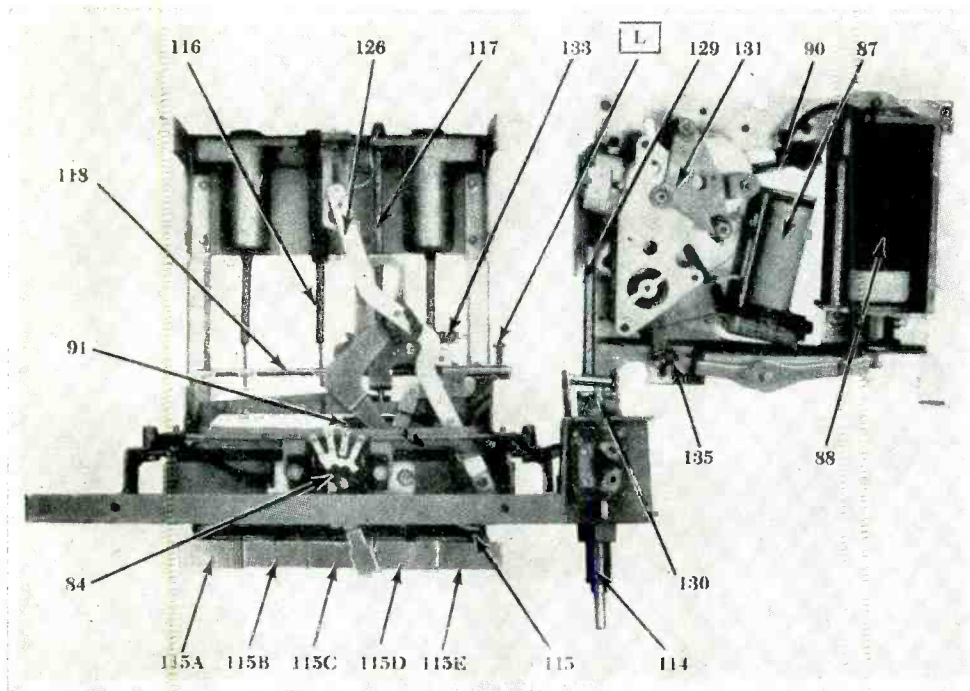

Fig. 3—Tuner open.
First and always, check the setting of the sensitivity switch lever, Fig. 3, item 84. Many owners do not understand the use of this switch and may need education as to its use. When left in the minimum sensitivity position the tuner will almost always roll without stopping. For checking purposes, it should be left full on to the right.
As in all previous models of signal-seeking radios, the greatest sources of trouble have been in the "contact" devices, namely the switches and relays. Most common is the case when the pointer moves to 1600 kc and stops. The reversing switch contacts, Fig. 3, item 90, may be burnished and adjusted for proper throwing action. In the majority of cases, however, the switch must be replaced.
When mechanical operation of a tuner is faulty, the gear train assembly, Fig. 3, item 131, must be removed. Typical complaints are: hesitation, crawling, jamming, machine gunning and slippage of manual tuning. Removal of the gear assembly is fairly easy when done with proper care. Proceed as follows:
2. Remove the nut holding the slide bar, Fig. 3, item 117, to the coil frame.
4. Remove the clips and springs connecting the core and slide assembly, Fig. 3, item 118, and remove the assembly.
5. After loosening the manual shaft setscrew, remove the clips, Fig. 3, item 135, and the three nuts holding the gear train assembly.
When a "machine gun" action is obtained, the tuner hits 1600 kc, bounces back but not all the way and keeps repeating. The planetary gear assembly may be at fault. This can be changed very easily by loosening its mounting plate nuts, Fig. 3, item 131, and sliding the shaft out of its bearing holes.
where corrosion of the plate relay contacts, Fig. 3, item 87, will cause the tuner to roll and not stop on stations. Careful handling and burnishing of the contacts can solve this situation or where very bad contact action is encountered, replace the relay. Contacts should be spaced very closely to make very quickly.
tuner power spring, Fig. 3, item 133, about 2 or 3 turns spacing. This may slow the tuner rolling action but not to any noticeable extent.